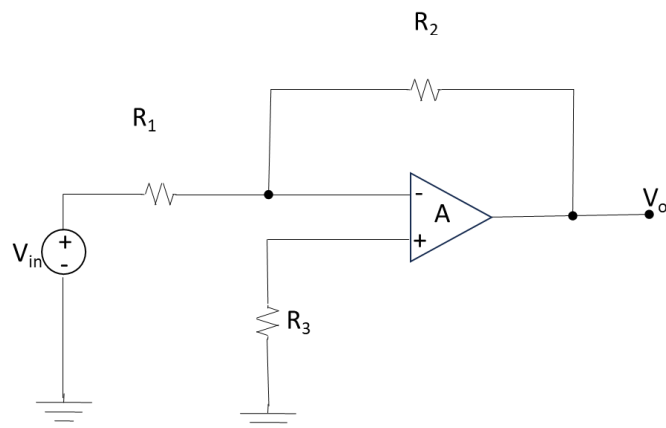

Figure 2
3. An inverting amplifier is shown in Figure 2. The data sheet for the op-amp gives the value of Gain Bandwidth (GBW) as 5 MHz, a voltage spectral density of white noise of